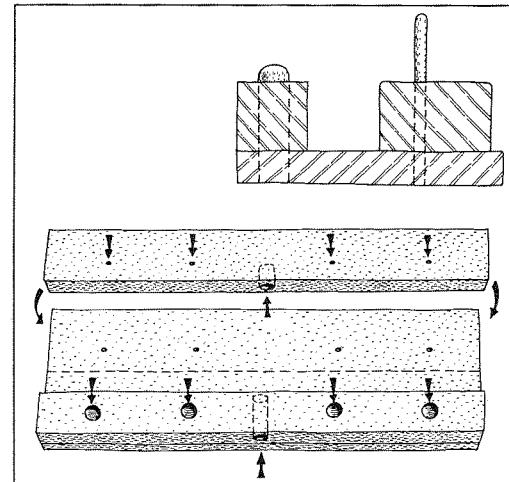

FIGURE 12-9
- 1 Mount the backing plate on the base, position the two slide rails, and set the rack in place. When you are sure all is correct, drill and dowel (Fig 12-9).